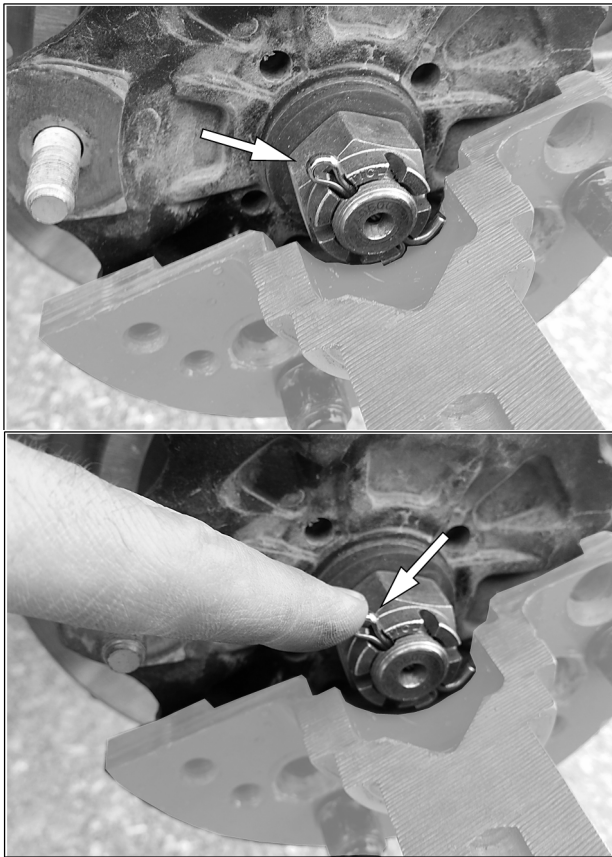

Fig. 17
7. Modify position of cotter pin to avoid interference with track system hub during installation. There must not be any resistance when track system is installed on vehicle's wheel hub. See Fig. 17